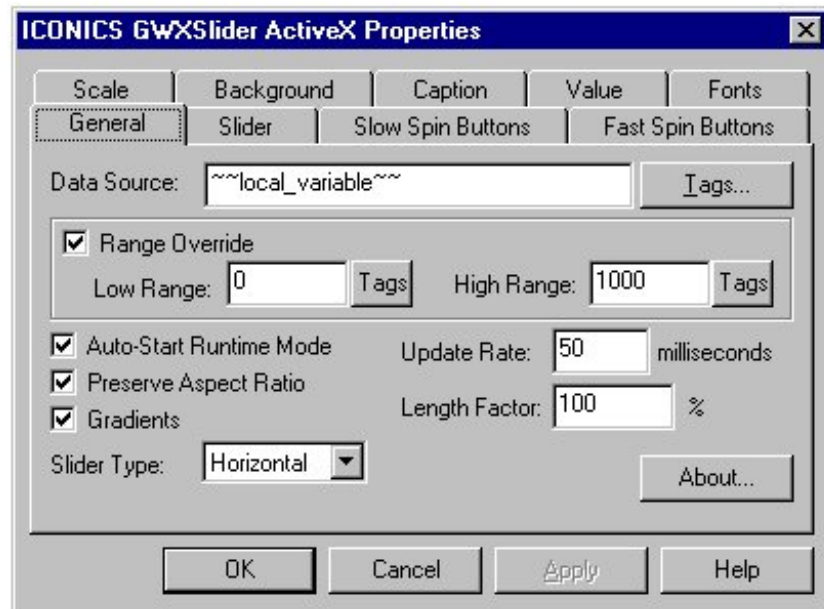

Figure 17-4: GWXSlider ActiveX Properties Dialog Box: General Tab
1. Double-click on the GWXSlider ActiveX control. The GWXSlider ActiveX Properties dialog box appears (Figure 17-4).